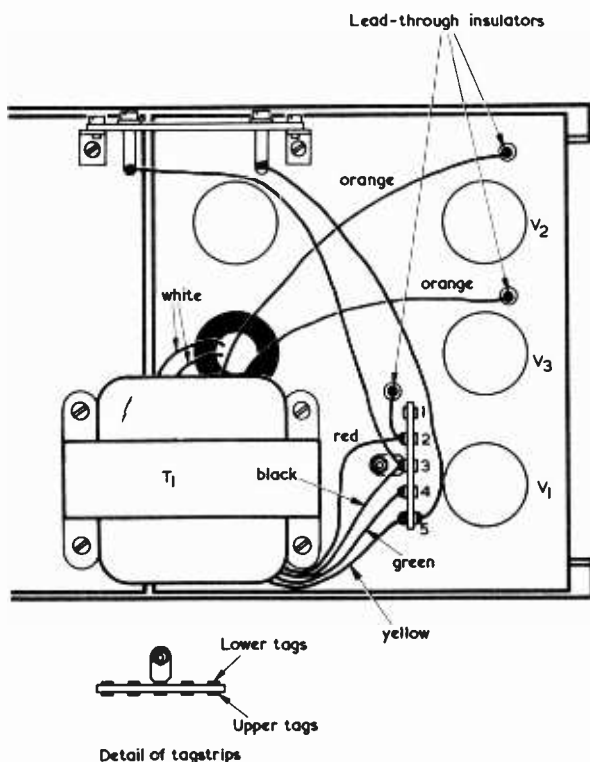

Fig. 7. The output transformer connections above the chassis
It will have been noticed in last month's issue that the tags of the four 5-way tagstrips are numbered from 1 to 20. This numbering is repeated in the diagrams given this month. A further point is that the four non-earthly tags in each of the Lektrokit 5-way tagstrips have two connection holes, one 'upper' (i.e. further away from the chassis) and one 'lower'. This fact simplifies wiring since it ensures that an excessive number of wires need not be connected at a single tag hole. In the instructions which follow, reference is made to the upper and lower connection holes of these tags. It is assumed in the diagrams that the lower connection hole is on the same side of the tagstrip as the mounting lug and that the upper connection hole is on the opposite side. See the inset in Fig. 7. In practice the upper and lower connection holes are both on the same side of the strip.
1. Refer to Fig. 7, which shows output transformer wiring above the chassis. Shortening as necessary, connect the yellow transformer lead to tag 5 (lower) and solder. Similarly shortening, connect the green lead to tag 4 (lower) and solder. Similarly shortening, connect the black lead to tag 3. Similarly shortening, connect the red lead to tag 2 (lower). Connect a wire between tag 2 (lower) and the adjacent lead-through insulator. Solder at the insulator and at tag 2 (lower).
2. Connect a wire between tag 3 and the left-hand tag (left-hand as shown in Fig. 7) of the 2-way terminal strip. Solder at that tag and at tag 3. Connect and solder a wire to the right-hand tag of the 2-way terminal strip. Connect and solder its other end to tag 2 (upper) if a 15Ω output is required, to tag 4 (upper) if an 8Ω output is required, or to tag 5 (upper) if a 2.5Ω output is required. (The 2.5Ω output is satisfactory for a 3Ω speaker). Fig. 7 shows this wire connected to tag 5 (upper).
3. Without shortening, connect the two orange leads to the two remaining lead-through insulators, as illustrated in Fig. 7. Solder at the insulators temporarily only. These two wires may need to be transposed later if it is found that the negative feedback circuit has incorrect phase.